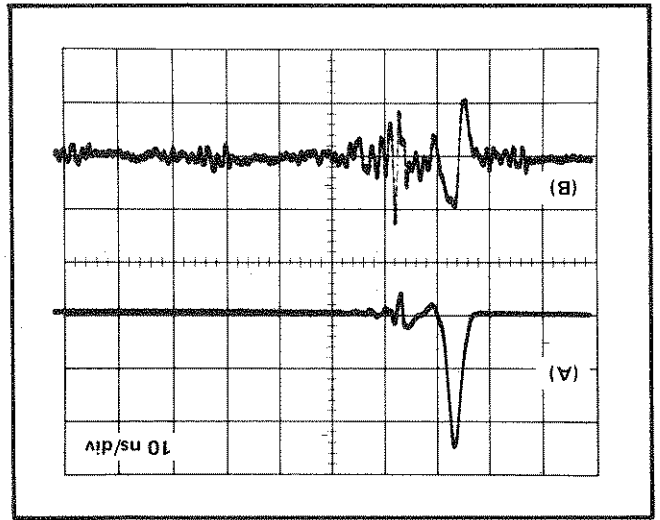

Fig. 5-4. Double exposure photo to show timing of kickout signal. (A) TRIG OUT signal; (B) Typical Kickout signal from the INPUT.
d. Observe the TRIG OUT signal on the CRT screen and record its position horizontally on the graticule. See the typical displayed signal (Fig. 5-4 waveform A).
g. Turn the SCAN control counterclockwise for about a one second sweep to observe the Kickout signal. Adjust the S-53 LEVEL and STABILITY controls for maximum amplitude of the Kickout signal. See a typical waveform (Fig. 5-4 waveform B).